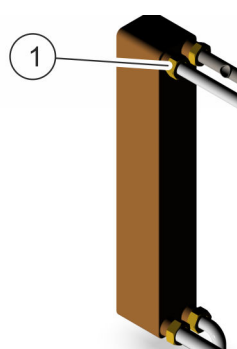

Fig. 30: Releasing bolted connections
3. To release the heat exchanger, use an adjustable spanner to release the 4 bolted connections (Fig. 30/1).
6. To bolt the new heat exchanger in place, tighten the 4 bolted connections (Fig. 30/1).